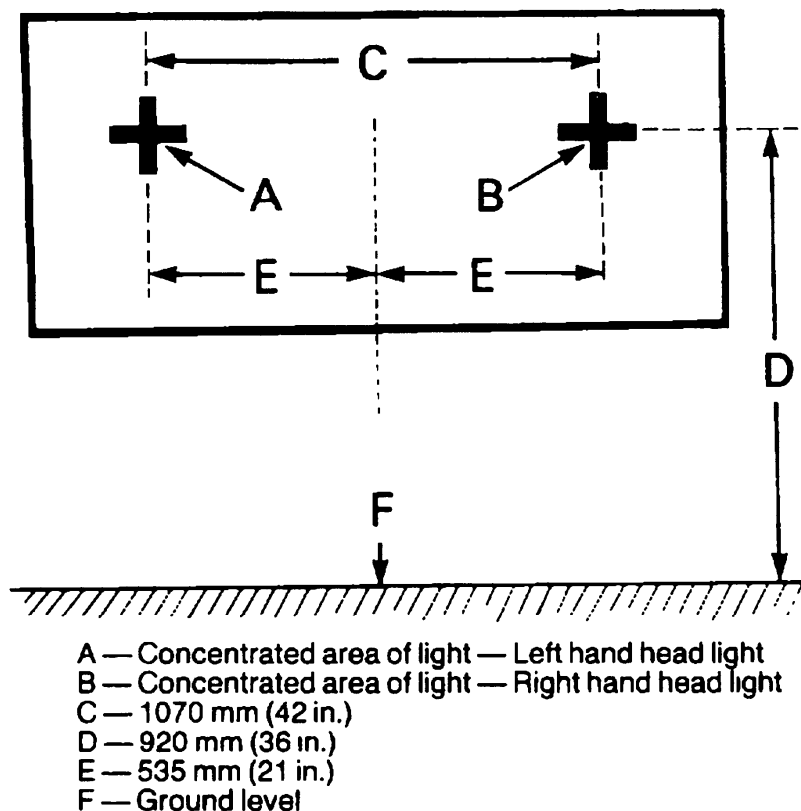

Figure 148 Headlight Unit Adjustment
- a. Mark the headlight pattern (Figure 148) on a board or wall.